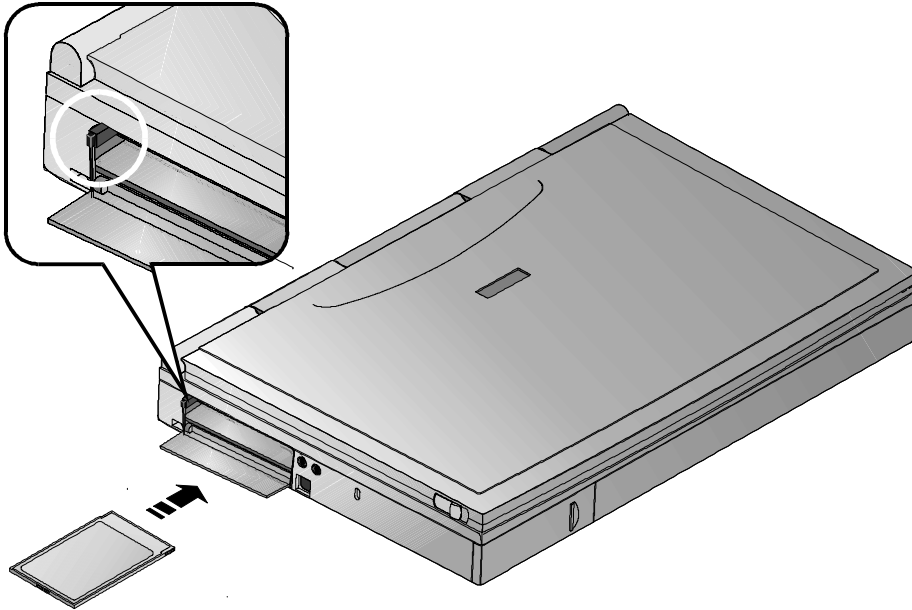

Figure 5-1: Inserting/Ejecting a PCMCIA Card
The instructions for inserting a PC Card are as follows. (Figure 5-1)
The instructions for ejecting a PC Card are as follows: (Figure 5-1)
1. To remove a PC card simply push the respective eject button. Push the left eject button to eject a Type I or Type II PC Card from the lower socket or a Type III PC Card from the socket. The left eject button is circled in the enlarged illustration in figure 5-1.
1. Insert the PC modem Card into the PC Card socket. Please refer to figure 5-1 if you have questions on inserting PC Cards into the PC Card socket.
1. Insert the PC Network Card into the PC Card socket. Please refer to figure 5-1 if you have questions on inserting PC Cards into the PC Card socket.
1. Save all data files and close any open applications. Insert the PC modem Card into the PC Card socket. Please refer to figure 5-1 if you have questions on inserting PC Cards into the PC Card socket.
2. Insert the PC Network Card into the PC Card socket. Please refer to figure 5-1 if you have questions on inserting PC Cards into the PC Card socket. Turn the notebook on. The PC Network Card must be installed in the notebook prior to boot up.